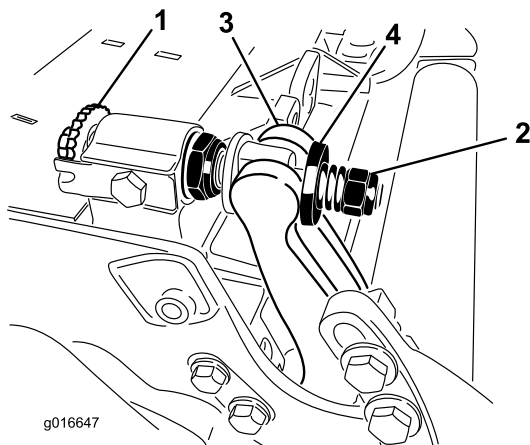

Figure 29
- Turn the bedbar-adjuster screws counterclockwise to back the bedknife away from the reel (Figure 29).
- Back out the spring-tension nut until the washer is no longer tensioned against the bedbar (Figure 29).